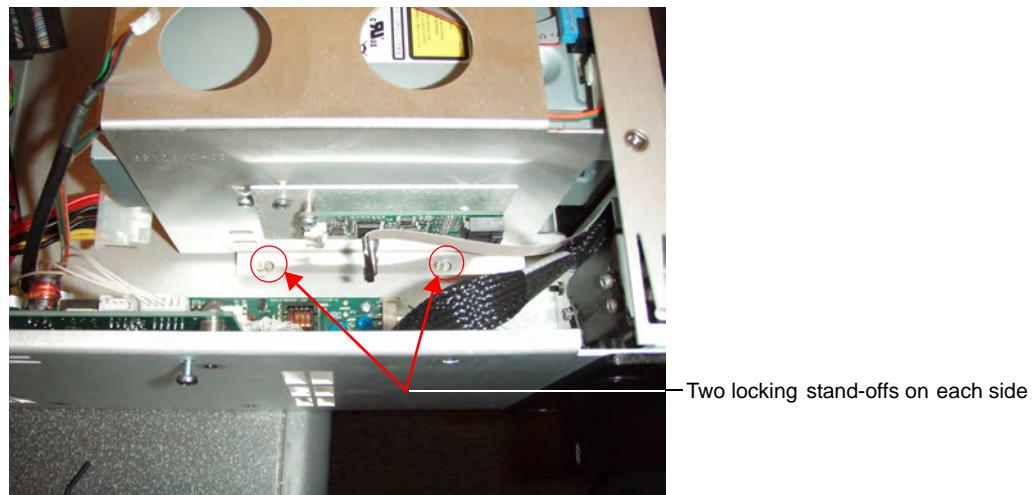

Figure 18 Unlock DVD Housing Assembly
14. Gently slide the DVD housing toward the rear of the DP600 to free it from the locking mechanism, as shown in Figure 18.